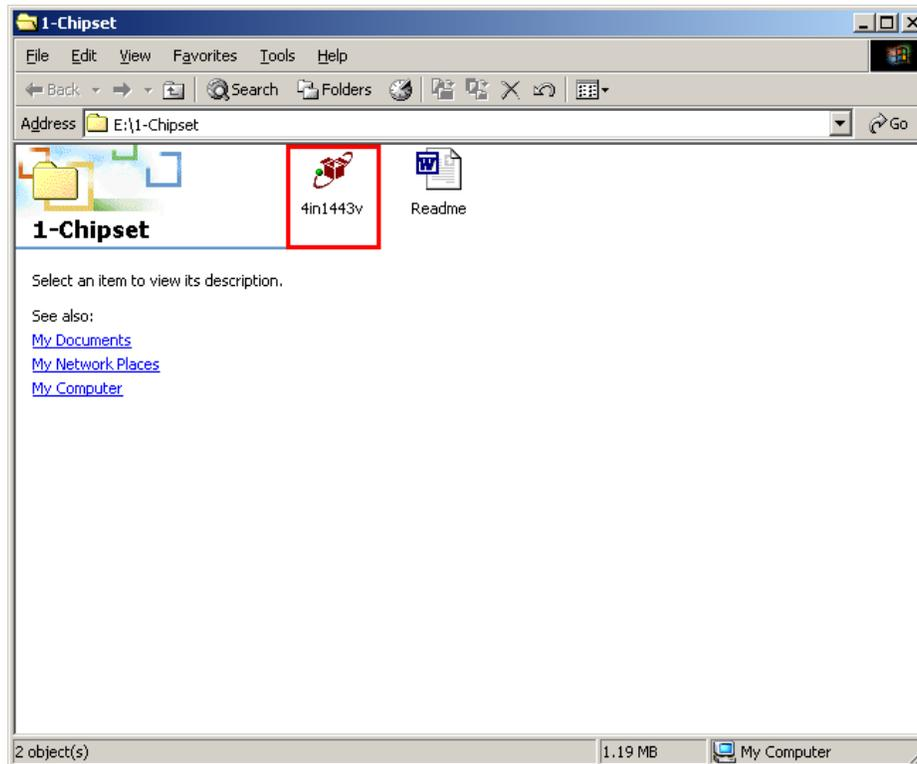

Figure 6-3: 4 in 1 Icon
Step 4: Select the “4 in 1” icon shown in **Figure 6-3**.